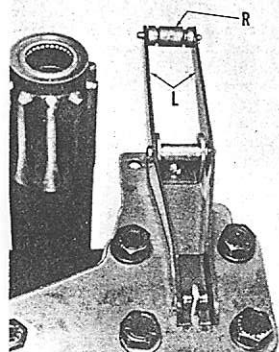

Fig. 283—Control valve lever (L) and roller (R) assembled to pump unit.
247. REMOVE AND REINSTALL. To remove the hydraulic lift cover, first remove seat and seat frame and disconnect upper lift links from lift arms. On models so equipped, disconnect control beam (6—Fig. 284) from clevis (16). On all models, drain hydraulic system fluid down until response side cover can be removed and remove the cover. Reaching through side opening, spread valve control lever arms (L—Fig. 283) and remove roller (R).
Keep cover level when installing. On models with welded tee block in standpipe, install standpipe in lift cover from bottom and push pipe up as far as possible. Make sure linkage support bracket on cover is positioned between arms (L—Fig. 283) of valve lever. Tighten the cover retaining cap screws to a torque of 50-55 ft.-lbs., reinstall valve lever roller (R) and complete the installation by reversing the removal procedure. Synchronize valve linkage after cover is installed, as outlined in paragraph 242.